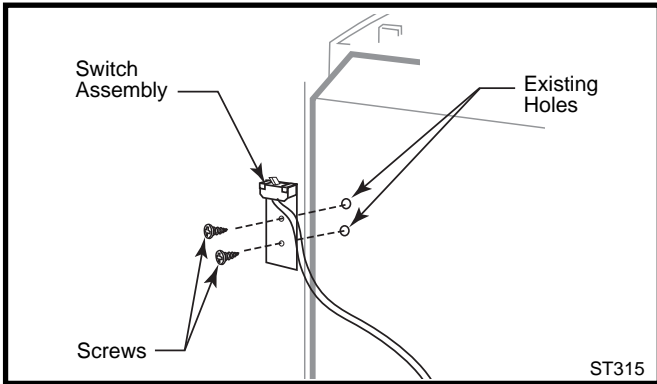

Fig. 40 Attach switch assembly to rear shroud.
1. Attach switch assembly to left rear side of stove shroud using two screws and existing holes in shroud. (Fig. 40)